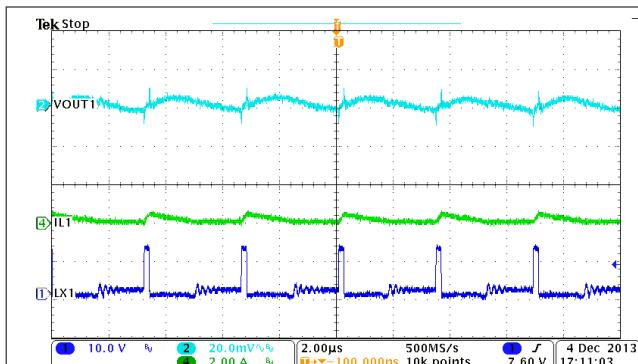
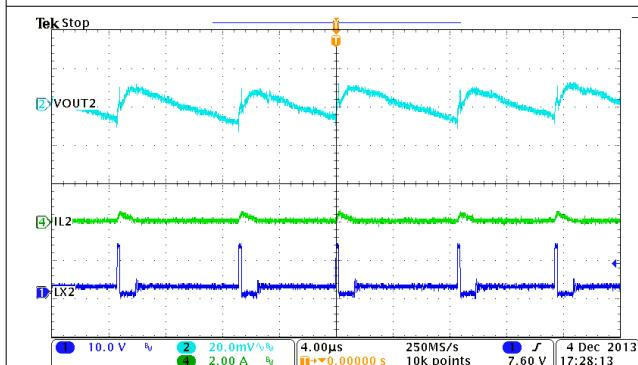
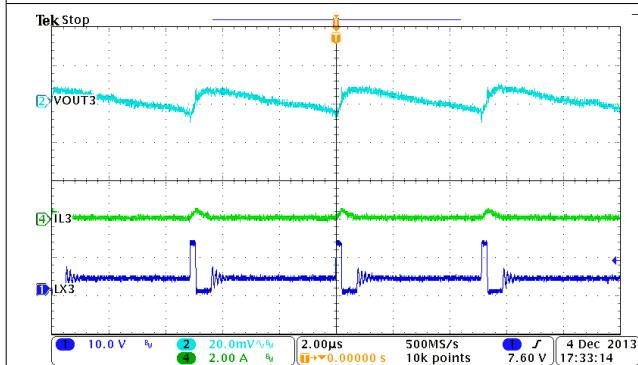

図 9-8. Buck1, Steady State Operation at Light Load
図 9-10. Buck2, Steady State Operation at Light Load
図 9-12. Buck3, Steady State Operation at Light Load
The device is designed to operate in high-efficiency PSM under light load conditions. Pulse skipping is initiated when the switch current falls to 0.23 A. During pulse skipping, the low-side FET is turned off. The switching node (LX) waveform takes on the characteristics of DCM operation and the apparent switching frequency decreases as shown in 図 9-8, 図 9-10, and 図 9-12.